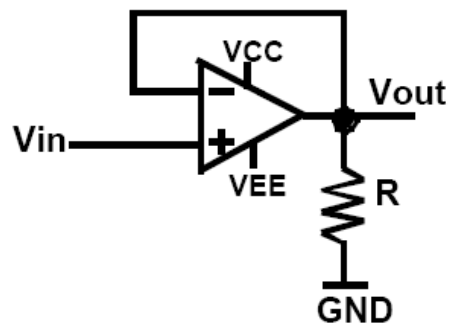
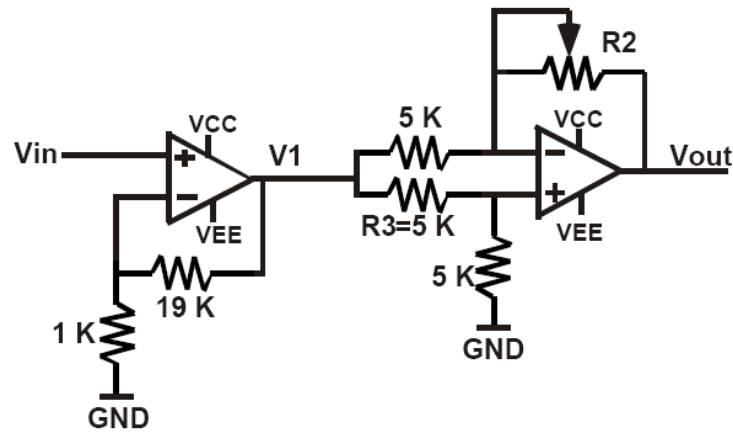

Figure 1. Voltage follower circuit.
Figure 2. Interesting gain circuit (© National Semiconductor).
Figure 1 shows the simple voltage follower circuit whose step response and sine-wave response will be studied in this lab. Figure 2 shows an interesting gain circuit, designed by a technical staff at National Semiconductor to provide variable gain with an interesting twist. You will analyze this circuit to find out what it does, measure its performance in the lab, and then re-design it to meet another specification.
In manufacturing testing of large-scale systems on IC or board or multi-chip modules (MCMs), a broken wire between two nodes in a circuit is a common failure. The wire might break due to improper soldering on a circuit board, bad contact, over-etching of conductor lines on an IC or MCM, etc. This type of fault is called “open” fault since the broken wire is equivalent to an open circuit (no connection). We will study one example of open fault with respect to the circuit in Figure 2 in this experiment.
For the circuit in figure 1 with $R = 5\text{ K}\Omega$, power supplies $V_{CC} = 12\text{ V}$, $V_{EE} = -12\text{ V}$, and the parameter values in section 6.1, answer the following questions:
4. Assume small-signal inputs to avoid slew-rate limitations and that the opamp is not ideal (e.g. finite open-loop gain A). You may still assume very large input resistance and very small output resistance for the opamp. Since the opamp gain A is not ideal and varies as a function of frequency (see the opamp specifications), the circuit in Figure 1 might not perform as a voltage follower. Using an equivalent circuit model for the opamp in which the open-loop opamp gain A is finite, analyze the circuit in Figure 1 to derive an equation for the circuit gain $V_{\text{out}}/V_{\text{in}}$ as a function of A . At what value of A does $V_{\text{out}}/V_{\text{in}}$ equal 0.5 ?
5. Using the opamp specifications (plot of opamp gain A as function of frequency) and the result in item 4 above, at what frequency do you expect $V_{\text{out}}/V_{\text{in}} = 0.5$?
6.3 Analysis of the gain circuit in Figure 2
Use the techniques in the text and what you learned about opamp circuits, analyze the gain circuit in Figure 2 following this procedure:
Re-design the circuit in Figure 2 so that the new overall gain has the opposite sign, i.e. if the circuit in Figure 2 has a gain G , the new circuit has gain $-G$ over the entire range of the resistor R_2 . Use as few components as possible and keep the design simple.
2. Analyze your circuit to prove that it has the gain as specified. If you find out that the magnitude of the gain somehow is not large as the gain magnitude for the circuit in Figure 2, explain why this is so.
6.5 Open fault in circuit in Figure 2
Assume that the circuit in Figure 2 has an open fault at the R_3 (5 K Ω) resistor. The effect of this open fault is to remove R_3 totally from the circuit.
1. Re-draw the circuit diagram in Figure 2, omitting the resistor R_3 to simulate the effect of the open fault.
1. Build the circuit in Figure 1 using $R = 5$ K Ω , programmable power supply 1 = 12 V and programmable power supply 2 = -12 V. Set the arbitrary waveform generator to provide a square wave input as follows (display on channel 1 of the scope):
7.3 Performance of the gain circuit in Figure 2
1. Build the circuit in Figure 2, with the initial setting of the resistor $R_2 = 0$ (record this value) and programmable power supply 1 = 12 V and programmable power supply 2 = -12 V. Apply a sine wave input signal with amplitude 200 mV, DC offset 0V, gain low (1x), and frequency 20 Hz. Display the input signal on channel 1 of the oscilloscope use the continuous start" data capture. Set channel 1 to gain X1 and DC coupling.
1. Build the circuit in Figure 2 but omit the resistor R3 to simulate the open fault. Set $R_2 = 8\text{ K}\Omega$. Apply a sine wave input signal with amplitude 200 mVpp, DC offset 0 V, gain low (1x) and frequency 20 Hz. Set channel 1 to gain X1 and DC coupling. Display the input signal on channel 1 of the oscilloscope.
1. From the pre-lab section 6.2 item 2 and the measured value in section 7.2 item 3, compare the calculated and measured values of the time for the output to reach the steady state.
2. With regard to the frequency at which the output starts to be distorted due to slew rate limitations, compare the value calculated in the pre-lab section 6.2 item 3 and the measured value in section 7.2 item 7. Explain any difference between these two values.
8.2 Performance of the circuit in Figure 2